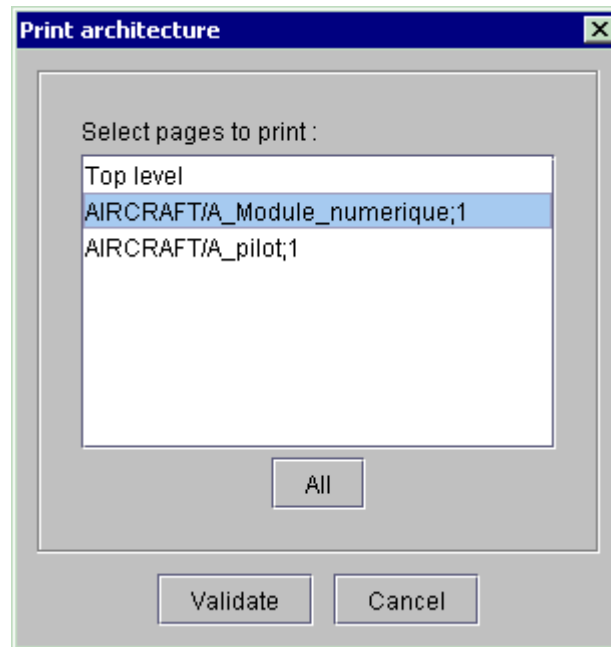

Figure 183 : Print architecture window
- ◆ Select the **File – Print** menu or click on icon  to print selected system (Figure 183);